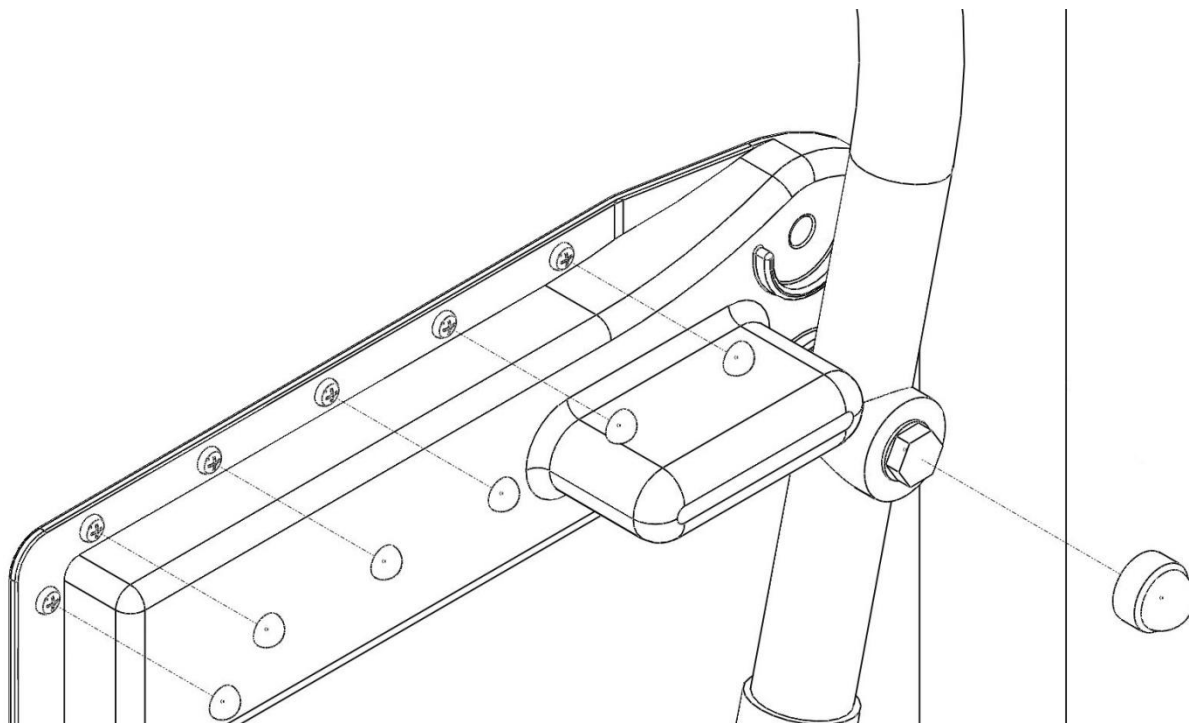

Figure 10
10. Press the decorative Large Black Dome Caps (EX-M) over the heads of the 3/8" x 3" Hex Cap Bolts. Then press the decorative Small Black Dome Caps (EX-N) over the heads of all exposed #10 screws (EX-H and EX-J). You may need a small amount of glue/epoxy depending on the climate. See Fig 10.